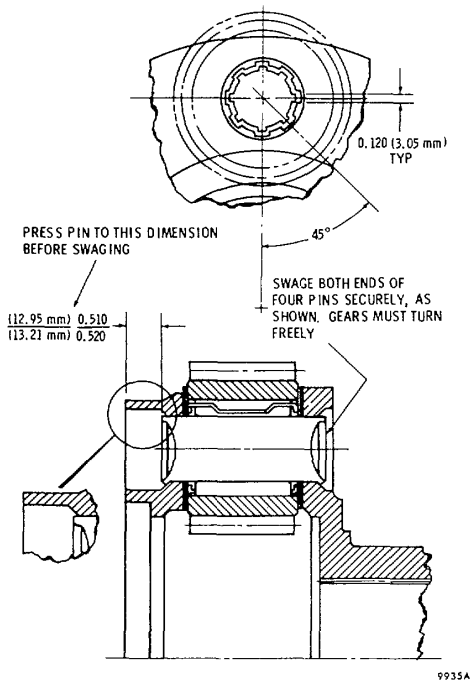

Fig. 6-63. Components of low planetary carrier assembly
(1) Install bearings 22 into the bore of each pinion 23. Place a steel thrust washer 24 (first), and a bronze washer 21 (last) onto each face of pinions 23.
(2) Position carrier 19 in a press, and place a pinion group (as assembled in (1), above) into the carrier. Aline
(3) Install pinion pin 20 and press it through the carrier and pinion group to the dimension shown in figure 6-63.
(4) Install the remaining pinion groups and pins in the manner described above.
(5) Support each pinion pin on an 0.812-inch (20.62 mm) (approx) anvil. Using a suitable punch, swage the pin firmly against the carrier to form the pattern shown in figure 6-63. After swaging, each pinion must rotate freely with 0.008 to 0.031 inch (0.203 to 0.787 mm) end play.